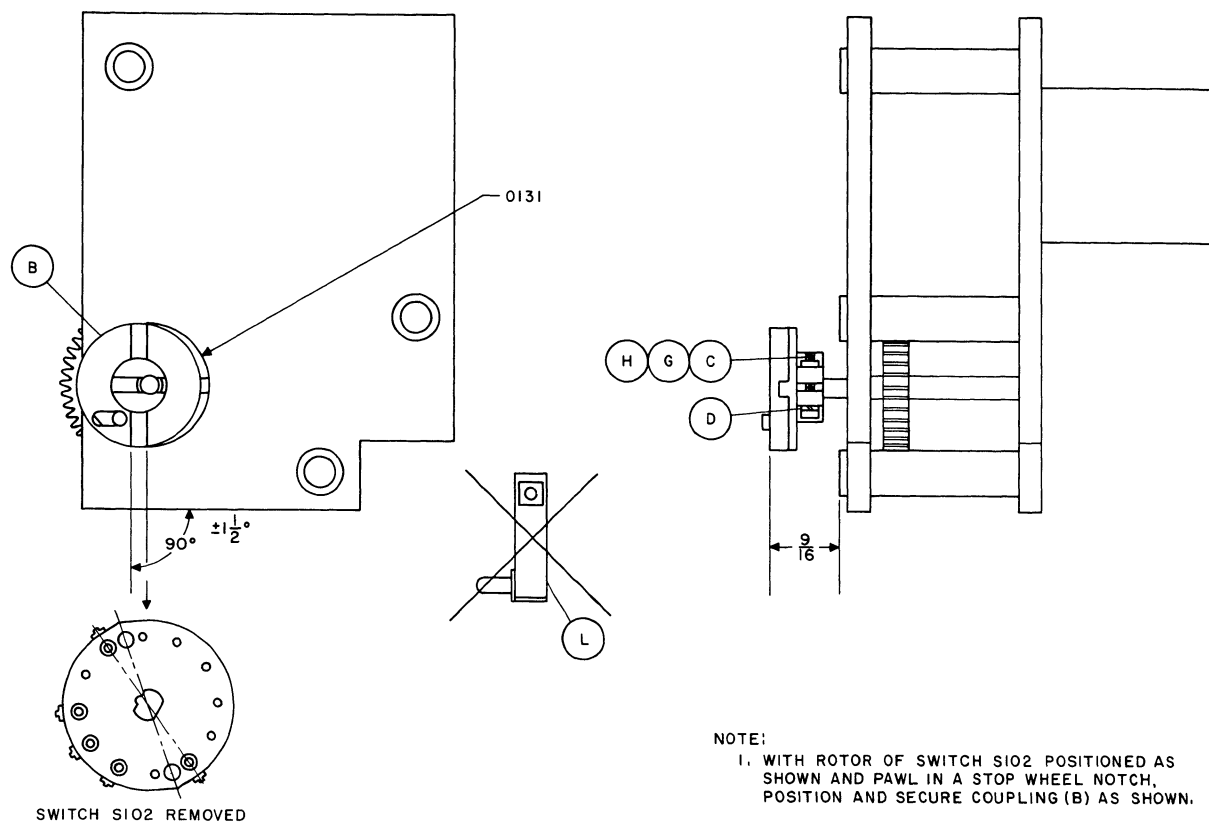

Figure 6-25. Installation of Oldham Coupler and Autopositioner Assembly
6.12.5.2 AUTOPOSITIONER DRIVE ASSEMBLY. Follow the same procedure as for the servomotor drive assembly. Position coupling as shown in figure 6-25.